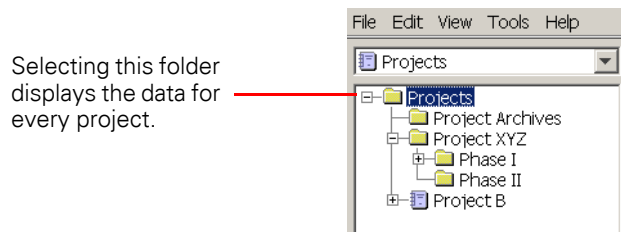

Figure 4.6 Viewing Channel Metrics Charts for Multiple Projects
3. Open the X and Y axis drop-down menus to change the information displayed. Display options are listed under Figure 4.6 below.